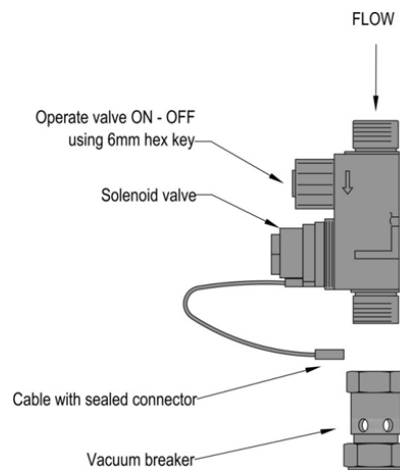

Fig. 2
- Flush valve kit (Fig. 2) consisting of an isolation/shutoff valve, solenoid valve and vacuum breaker/air break
3. Assemble flush valve components (Fig. 2) following directional arrow on solenoid valve body during assembly